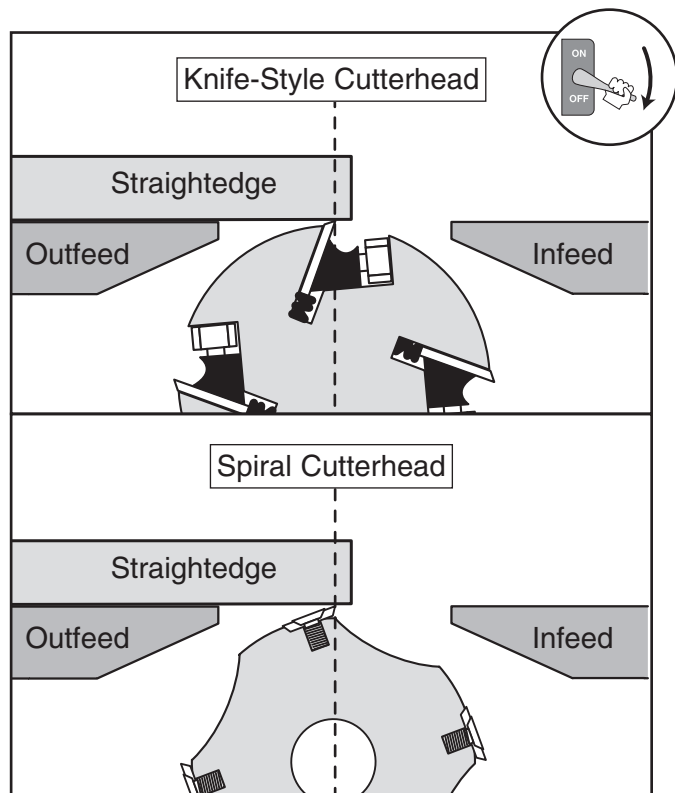

Figure 23. Cutter edge at top-dead-center.
3. Place the straightedge on the center of the outfeed table and over the cutterhead, then use the cutterhead pulley to rotate the cutterhead until the cutter edge is at the top-dead-center, as shown in **Figure 23**.